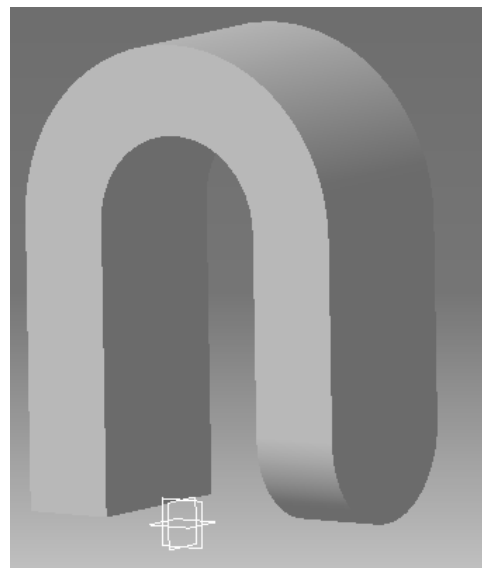

Figure 2.7
2.13 Select the **OK** button. The bottom surface selected will be removed and replaced with a radius. The radius will be the same size as the length of the surface it replaced, reference Figure 2.7.